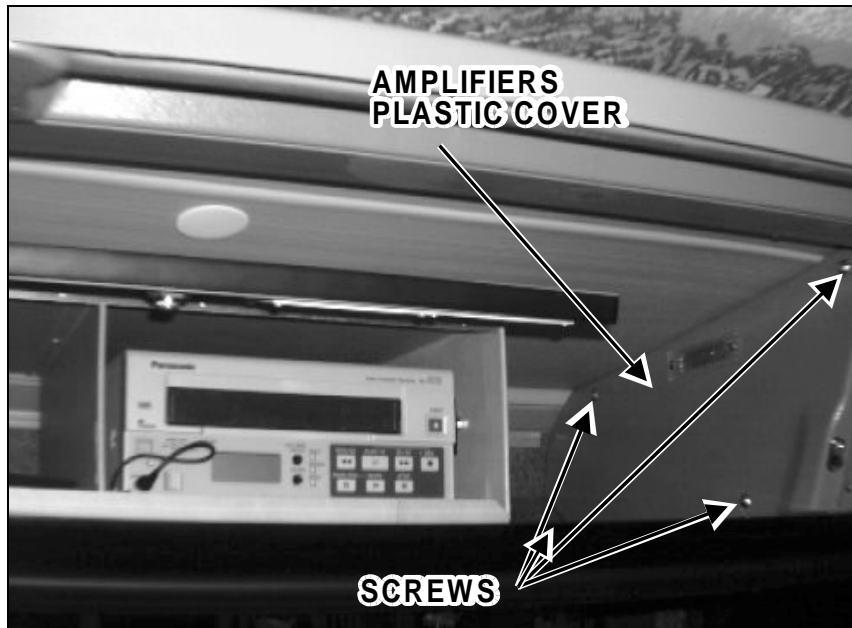

FIGURE 5
2. Remove the screws securing amplifier protection panel located in parcel rack behind driver (Fig. 5 and 6). Remove the panel.